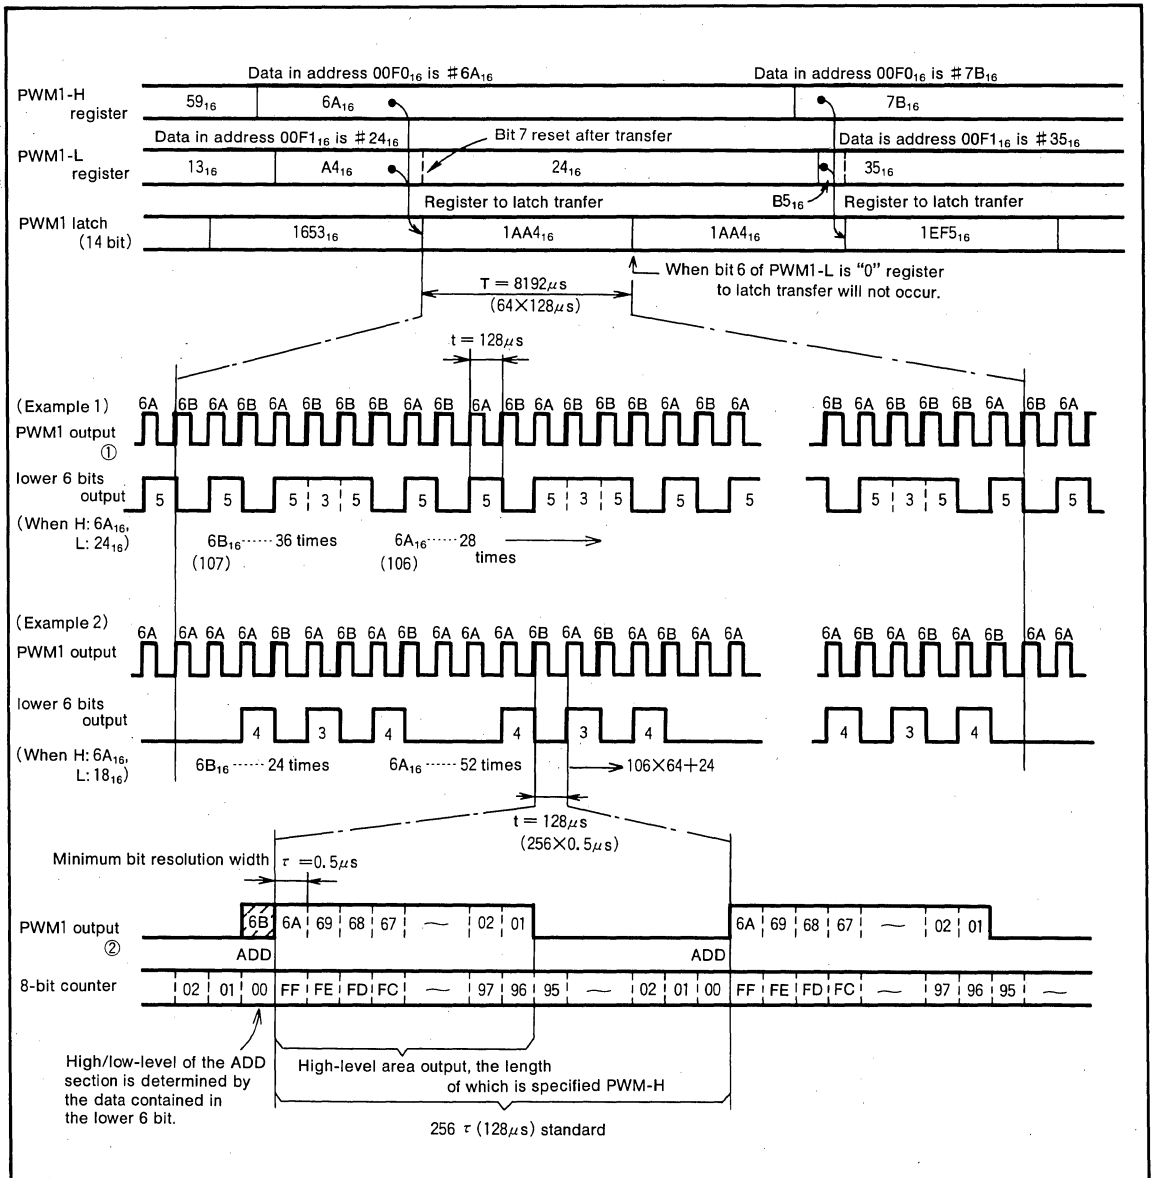

Fig.12 14-bit PWM timing diagram (M50957-XXXSP)
A high-level area within a length N times  $\tau$  is output every short area of  $t = 256 \tau = 128\mu\text{s}$  as determined by data N of the higher 8 bits. (Refer to PWM output ② in the lower part of Figure 12 and 13.)